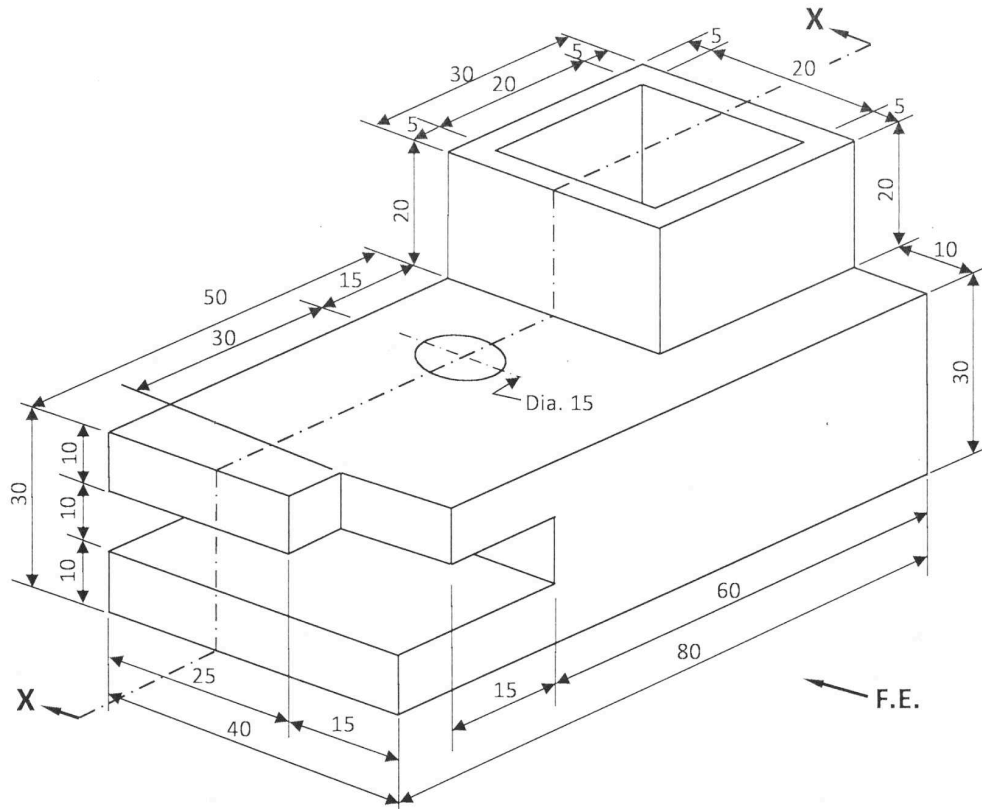

Figure 4
- 11** Figure 4 shows a shaped block drawn in isometric projection.